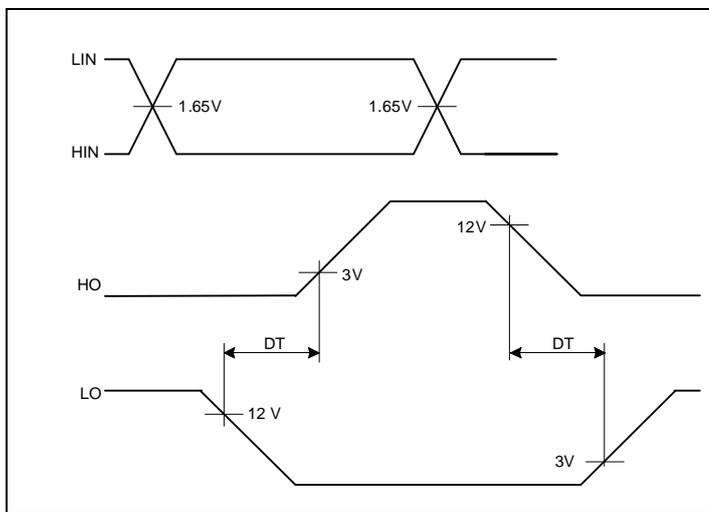

Figure 8 Dead Time Definitions
This 2ED2182 (4) S06F (J) features integrated deadtime protection circuitry. The deadtime is fixed for 2ED2182S06F; is programmable for 2ED2182S06J, it provides greater design flexibility. The deadtime feature inserts a time period (a minimum deadtime) in which both the high- and low-side power switches are held off; this is done to ensure that the power switch being turned off has fully turned off before the second power switch is turned on. This minimum deadtime is automatically inserted whenever the external deadtime is shorter than DT; external deadtimes larger than DT are not modified by the gate driver. Figure 8 illustrates the deadtime period and the relationship between the output gate signals.